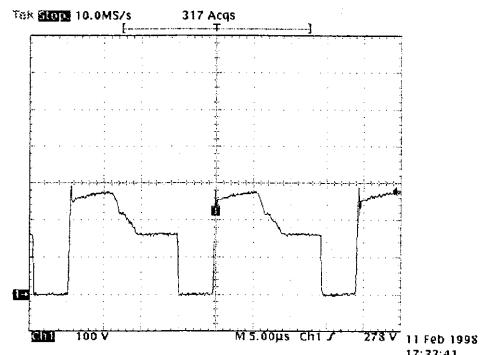

FIG. 12 REF. 1
- on the electronic board (ref. 1) short-circuit points U, T and a rheophore of the primary circuit of the transformer (fig. 12) switch on
- Set the regulation knob to the centre of the dial, switch on the generator, turn the knob to the maximum welding current and read with the amperometer the maximum current indicated on the technical table with +/- 5% tolerance. You will see on the oscilloscope a waveform as in fig. 12.